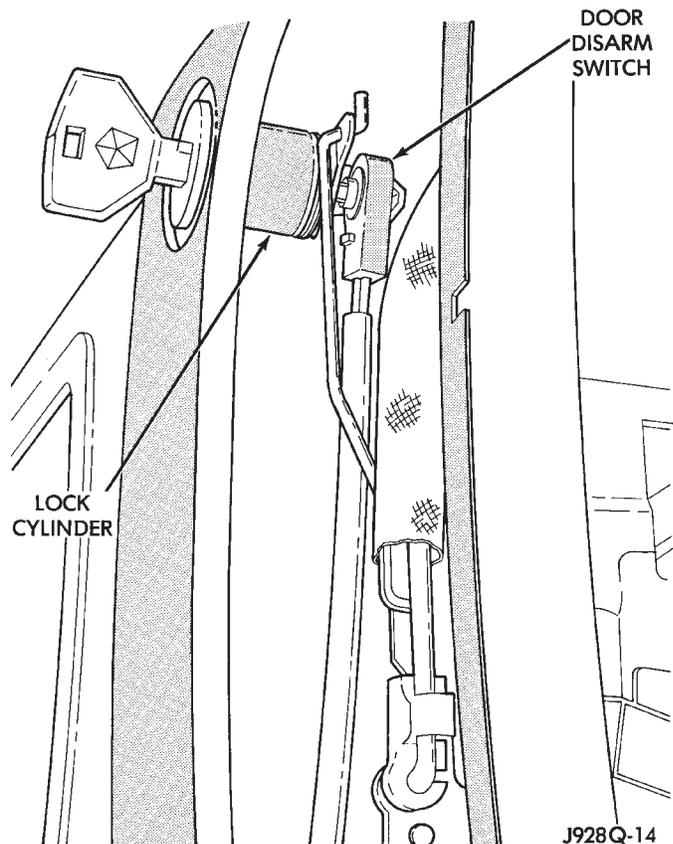

Fig. 8 Door Lock Cylinder Switch Remove/Install - Typical
(11) Disconnect the door lock cylinder actuator rod from the door latch by unsnapping the plastic retainer.
(12) Pull the lock cylinder out of its mounting hole from the outside of the door panel far enough to pry the lock cylinder switch off of the back of the lock cylinder (Fig. 8).